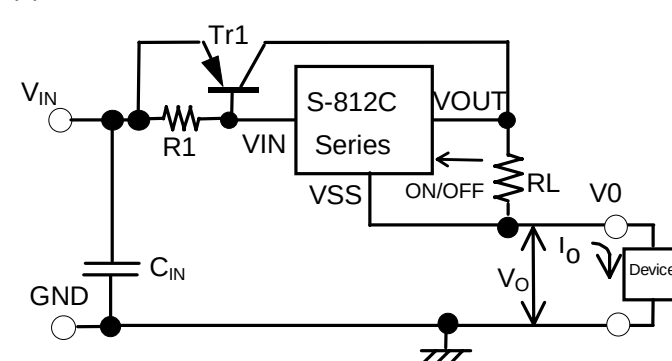

Figure 12 Constant Current Circuits
The S-812C series can be served in a constant current circuit as shown in the figure 12. Constant current  $I_O$  is calculated from the following equation:
Please note that in case of the circuit shown in the figure 12 (1) the magnitude of the constant current  $I_O$  is limited by the driving ability of the S-812C.
The circuit shown in the figure 12 (2) can, however, provide the current beyond the driving ability of the S-812C by combining a constant current circuit with a current boost circuit. The maximum input voltage for the constant current circuit is the sum of the voltage  $V_O$  of the device and 16 V. It is not recommended to attach a capacitor between the S-812C power source VIN and VSS pins or between output VOUT and VSS pins because rush current flows at power-on.